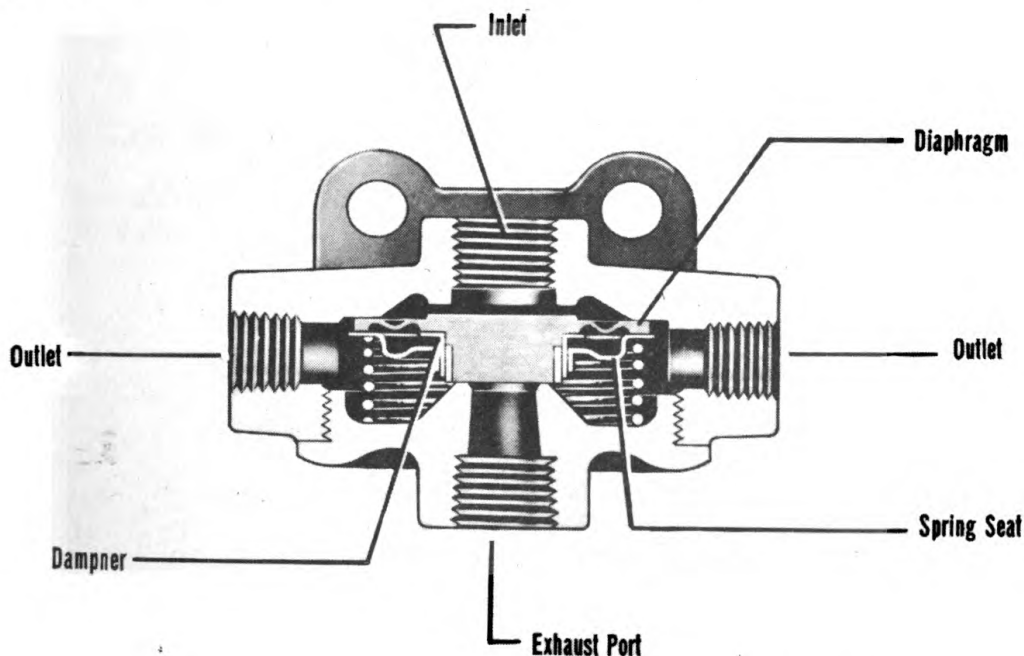

Figure 41—Cross Section of Quick Release Valve.
(2) Cut tubing to required length with a hack saw or tubing cutter. As the cut is made, make sure the end of the tubing is smooth and that it is cut squarely with the outside wall. Also, be sure the ends of the tubing are not crimped or partially closed. Ream or file the ends of the tubing, if necessary.
(3) Blow out tubing with an air hose to remove all cuttings and filings. This is very important.
(4) Place the nut and sleeve on the tubing and put the end of the tubing in the recess in the tubing fitting body.
(5) Hold the tubing at the bottom of the recess and tighten the nut to seal the joint against leakage. It is only necessary to tighten the nut until sufficient pressure is placed on the sleeve to prevent leakage. Always use a new sleeve when replacing tubing lines. Tubing fitting nuts and bodies may be used again provided they are in serviceable condition.
12. Quick Release Valve. (See figure 41.)